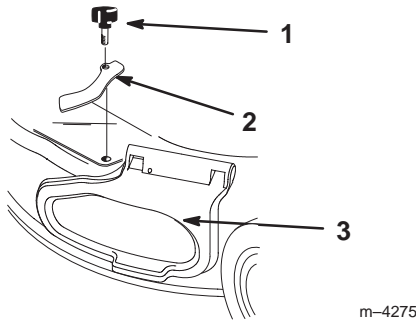

Figure 32
3. Remove the knob and side cover clamp (Fig. 32).
3. Remove the knob and side cover clamp, then replace the knob in the hole and save the clamp for future use (Fig. 32).
4. Lift up on the side opening cover (Fig. 32).